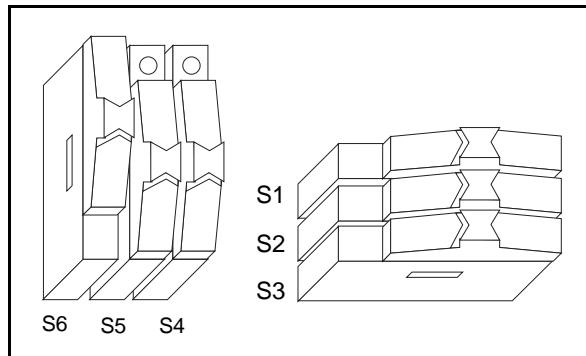

Figure 4. 100 Generic Screw Terminals Switch Configuration
- For use with any 100-pin board, bypass all circuitry by switching S6 to the up position, as shown in Figure 4. The LED will not light in this configuration.